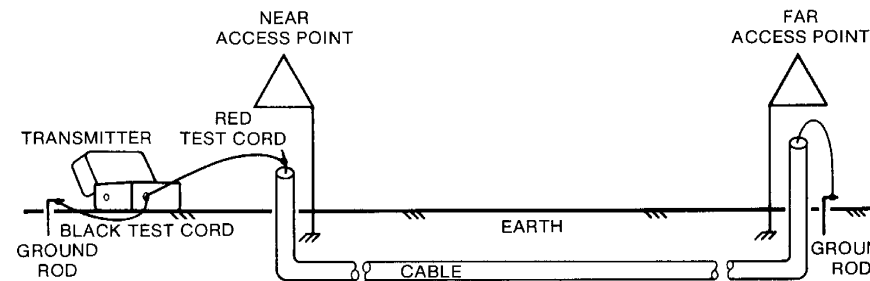

Figure 2-3.
4. Connect the black test cord clip to the ground rod (see Figure 2-3).
5. Plug the jack end of the red/black test cord into the TRACING TONE jack receptacle on the transmitter (see Figure 2-3). (see Figure 2-3).